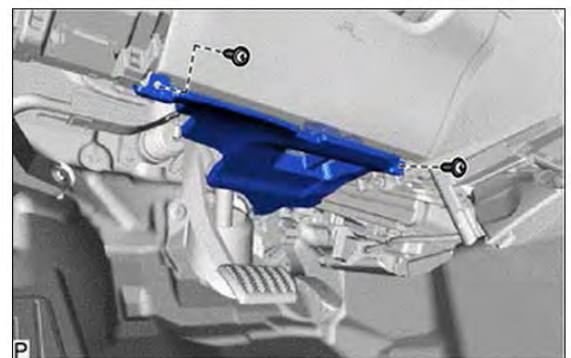

Figure 16
- (a) Remove 2 screws (Figure 16).